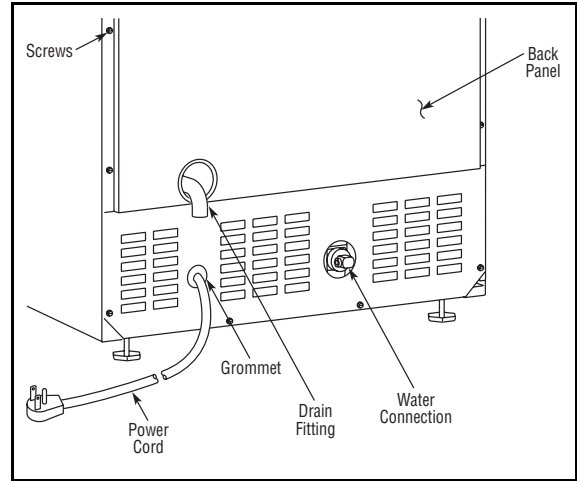

Figure 7
2. Carefully push the power cord grommet through the hole in the back panel (Figure 7).